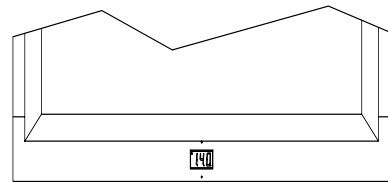

Figure 2
4. Monitor product temperature via the digital thermometer (see figure 2).